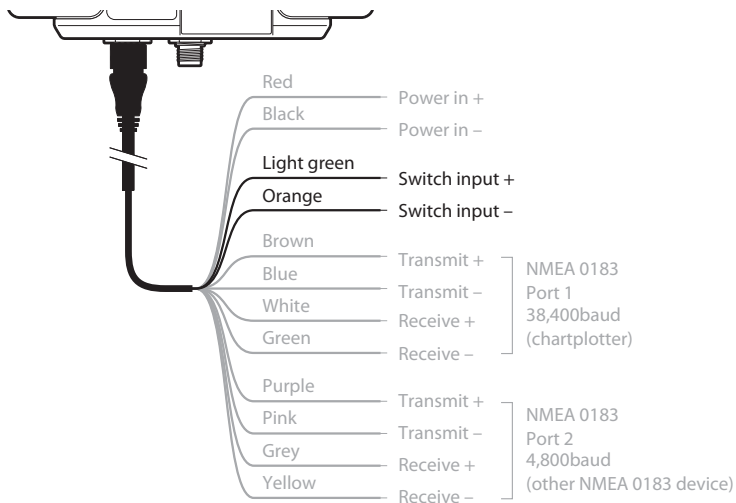

Figure 10 Connecting an external switch
1. Connect the toggle switch between the light green and orange wires as shown in Figure 10.